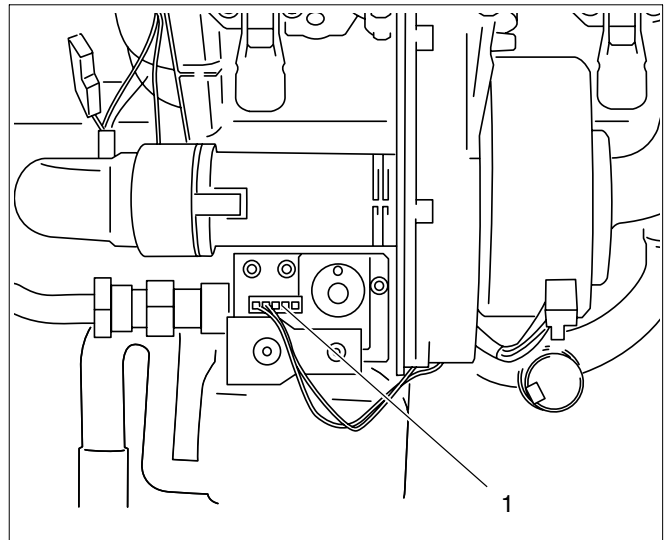

Fig. 116 Replacing the gas control valve (e.g. HONEYWELL gas control valve)
- Remove the cable plug from the gas control valve (see fig. 116, pos. 1).